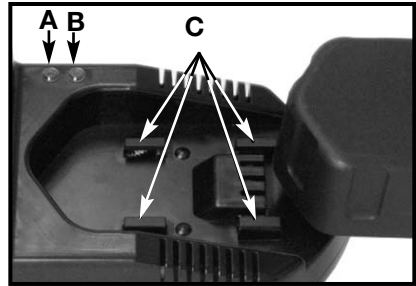
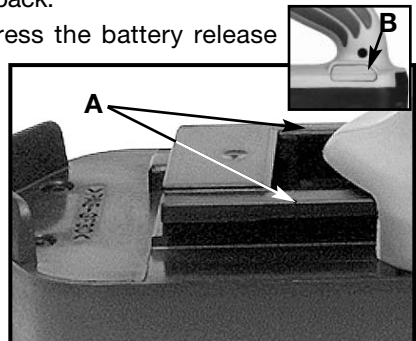

Fig. 1
Fig. 2
Position the battery pack on charger, align the rails on the battery pack (A) Fig. 2 with the four tabs (C) Fig. 1 on the charger. Slide the battery forward on charger until it stops.
The green light (A) Fig. 1 should begin to flash rapidly indicating that the battery pack is receiving a “fast charge”. [If the green light does not flash or if the red light (B) illuminates, see **DIAGNOSTICS**]. After approximately one hour, the “Fast Charge” indicator light should glow continually, indicating that the battery pack is fully charged and that the charger is now in a “Maintenance Charge” mode. The battery pack can be left on “Maintenance Charge” until you are ready to use it.
**TO REMOVE BATTERY PACK:** Depress the battery release button (B) Fig. 2, and pull battery pack out of tool.
**TO INSTALL BATTERY PACK:** Align rails (A) Fig. 2, on battery pack with slots on tool and push battery pack onto tool until it locks in place.